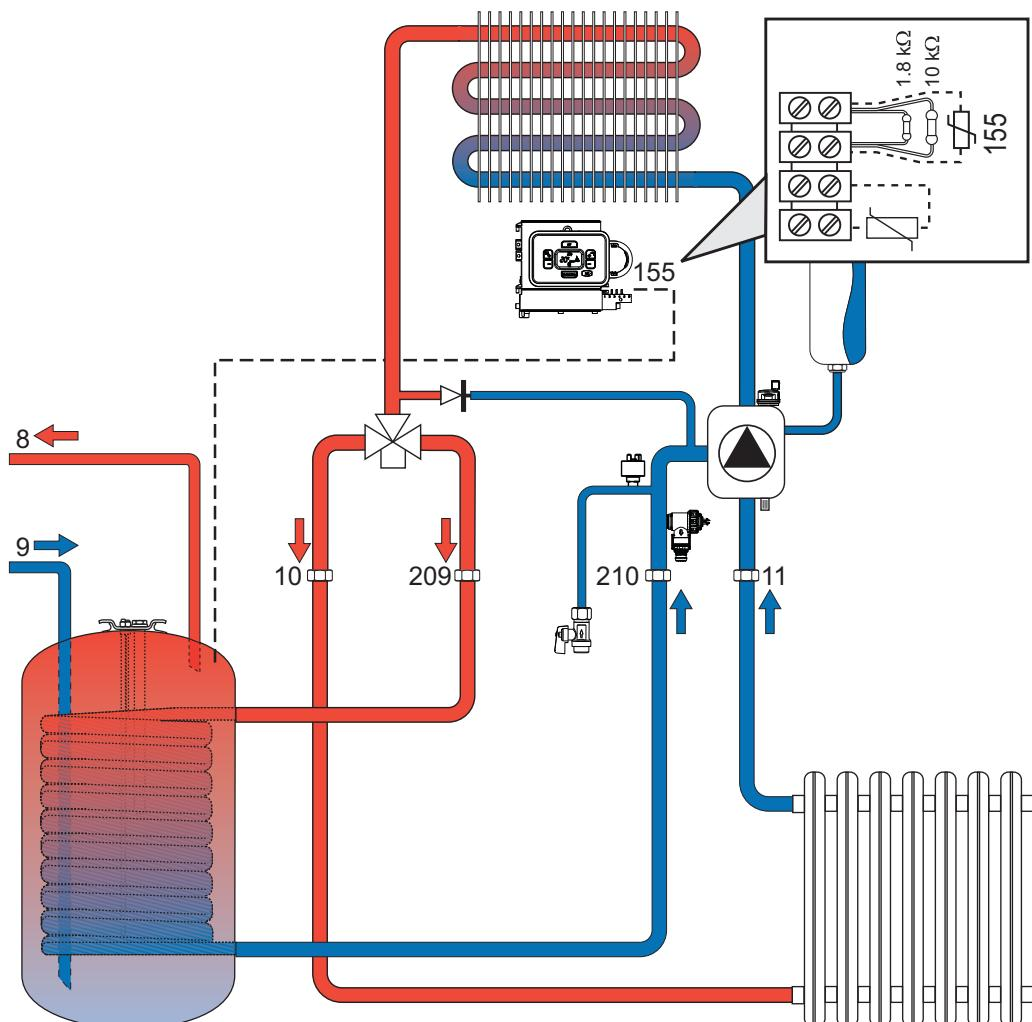

fig. 10- Diagram of connection to an external hot water tank
The unit's electronic card is arranged for managing an external DHW storage tank. Make the plumbing connections according to the diagram of fig. 10. Connect the storage tank probe (155) disconnecting the two resistors from the terminal block. At the next lighting, the boiler control system detects the hot water tank probe and automatically configures the DHW function, activating the display and relevant controls.